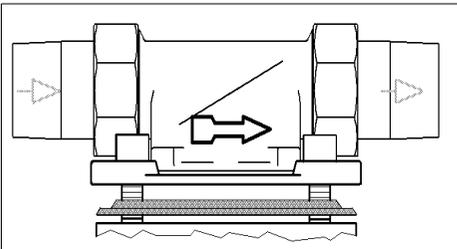

Fig. 1: built-in rotary flange
- Direction of flow (see Fig.1)